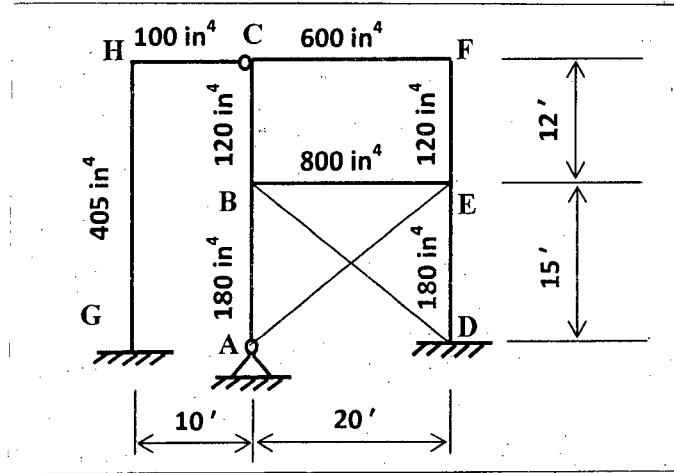

Fig. 10
8. (a) Determine the effective length coefficients for the columns of the frame shown in Fig. 10. The moments of inertia for members in inch^4 are shown alongside the members. The correction factors for beam stiffnesses with far end of the beam hinged are $\frac{1}{2}$ with